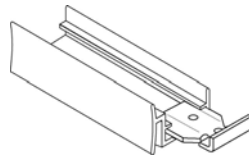
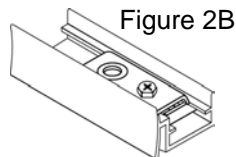

Figure 2B
Figure 2C
G. Locate the Pivot Block Clamp (#8) in the Hardware Bag. Loosen the #10-32 x 7/16 Screw (#8A) in the Pivot Block Clamp (#8) and slide the Pivot Block Clamp (#8) into the Bottom Track (#3) on the side where the door will pivot (See Figure 2B). Position the Pivot Block Clamp (#8) 1/2 to 3/4 in from the end of the Bottom Track (#3) (See Figure 2C). If installing a four-panel set, place a Pivot Block Clamp (#8) at both ends of the Bottom Track (#3).